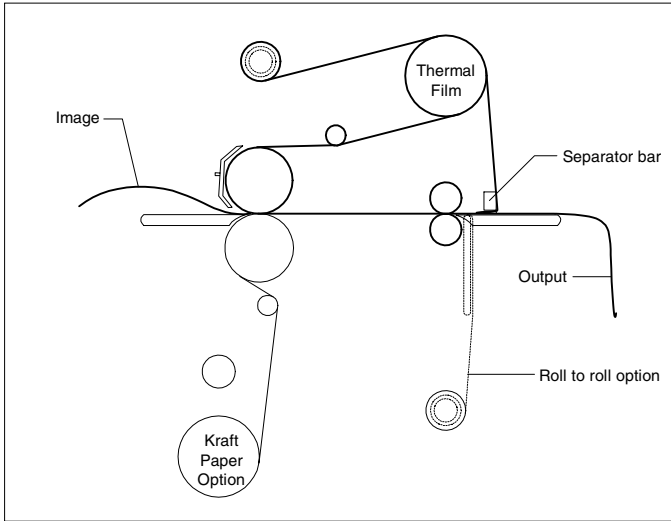

Fig. 40
TIPS FOR ACCUSHIELD (Figure 40)
1. Load the laminator as illustrated in Figure 40.